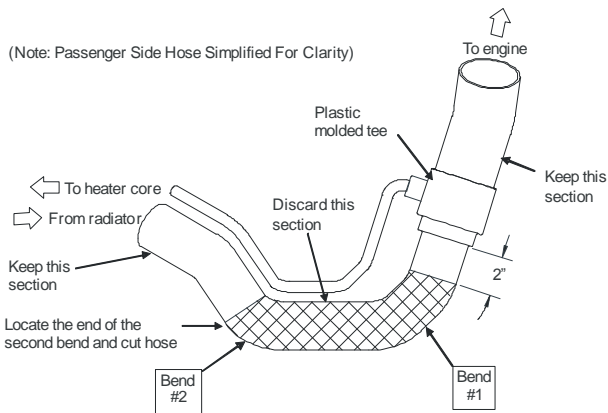

Figure 5.8
- ☐ Measure and cut the lower radiator hose 2" below the plastic molded tee on the engine side of the radiator hose. (2" will bring you to the start of bend #1 in the hose).(Figure 5.8)
- ☐ Measure to the end of bend #2 on the lower radiator hose and cut. Leave all the straight section after bend #2.(Figure 5.8)